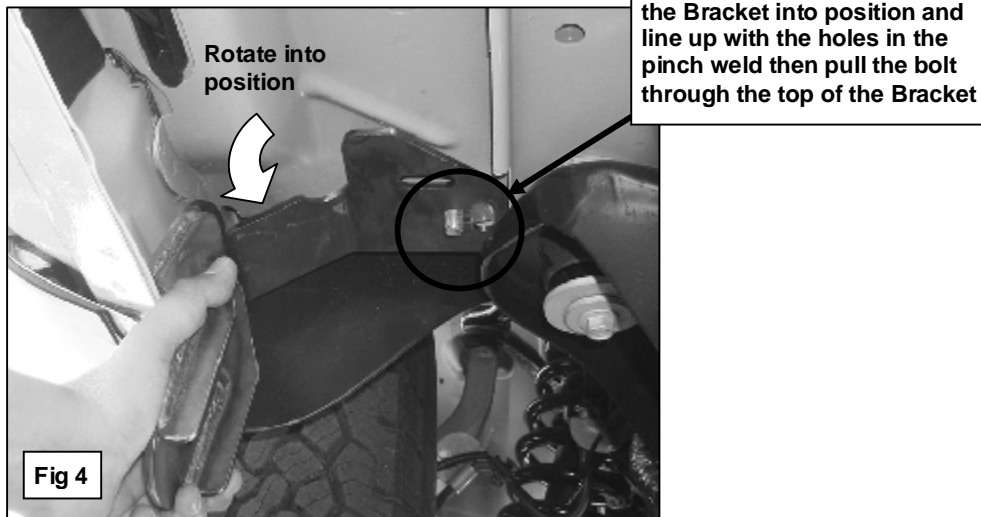

Fig 4
around to line up the Nut with the remaining hole and thread (1) 10mm x 35mm Hex Bolt, (1) 10mm Flat Washer and (1) 10mm Lock Washer into the Nut, **(Figure 4)**. Do not tighten at this time.